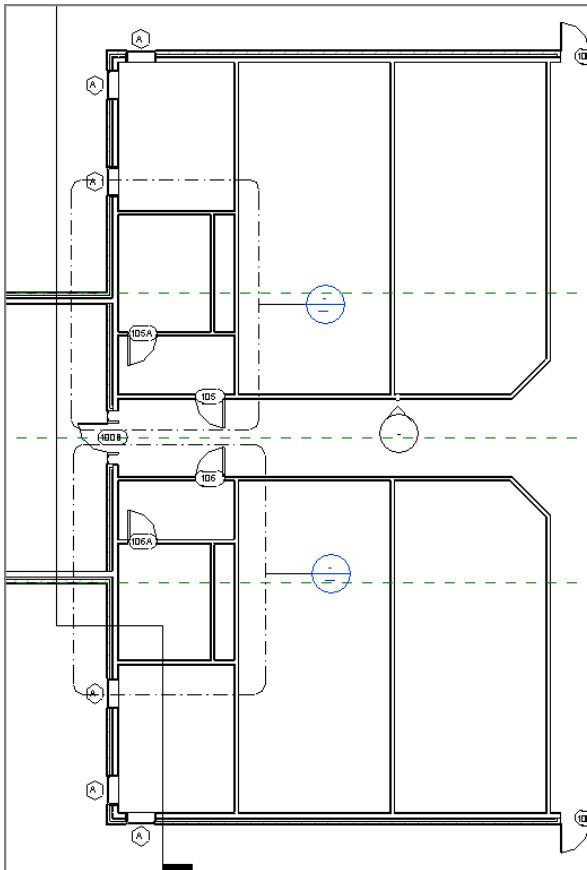

FIGURE 4.49: Completing the floor plan by using the Offset command will be a common procedure.
8. Repeat the process for the walls south of the corridor. Your interior should resemble Figure 4.49.